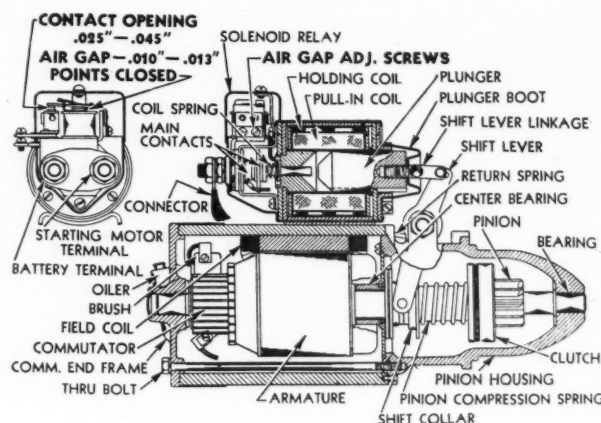

Fig. 2. Starting Motor—Series 60-80-90
by holding the wiper arm away from the glass with one hand and pulling end of the blade with the other hand (See Fig. 2). Care should be used so that the spring inside the wiper arm is not stretched out of shape.
(1) WITH A RUN DOWN BATTERY AND A LOW OR NO CHARGING RATE, check the battery to make sure it is really run down, and then check the wiring circuit for loose connections, frayed or damaged wires. If there are loose connections or defective wires which would produce abnormal resistance in the circuit, a normal charge will be prevented from reaching the battery. If the wiring and connections are okay, then the trouble is in either the regulator or generator. To determine which is at fault, connect a test ammeter into the circuit at the "BAT" terminal of the regulator (Figure 2), start the engine, increase the speed and note the output. Now slow the engine to idle and with a jumper lead, connect between the "F" terminal